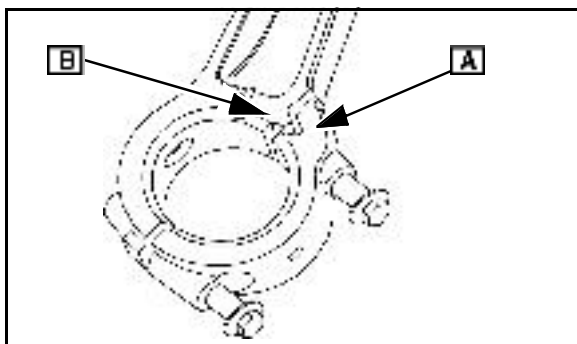

Fig. 24
**NOTE: (28Q700)** The notch in the connecting rod cap (A) must engage the tab on the connecting rod ([B] Fig. 24).